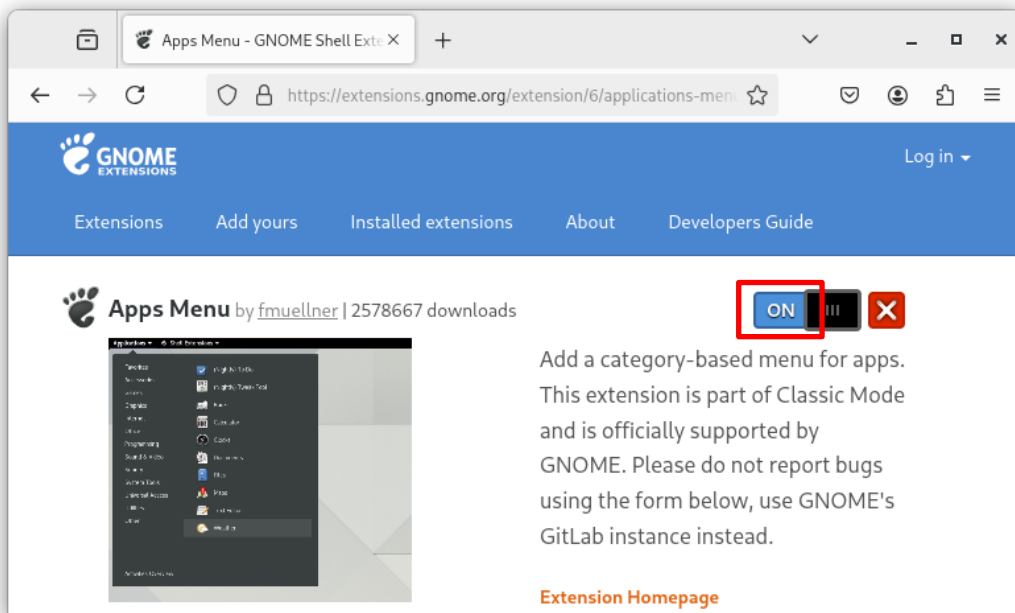

Figure 25: Debian 13 - Installing the GNOME 'Apps Menu' plugin
- When the plugin is installed, refresh the webpage, after which the Main Menu plugin can be installed by dragging the slider on the right to 'ON'. See figure 25 below.